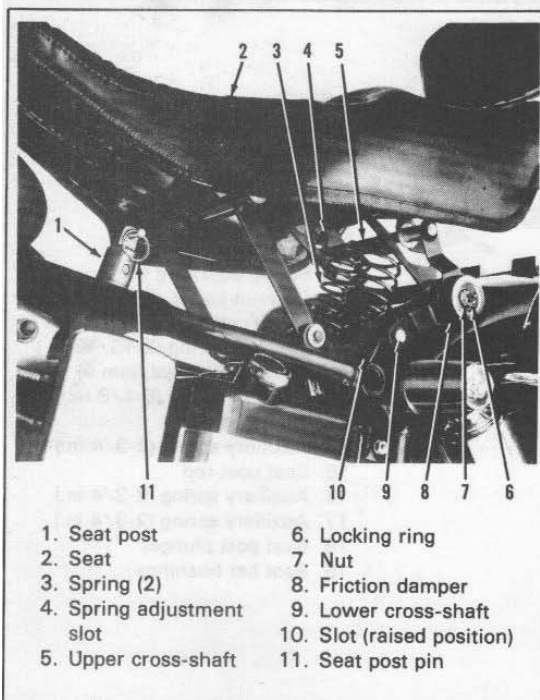
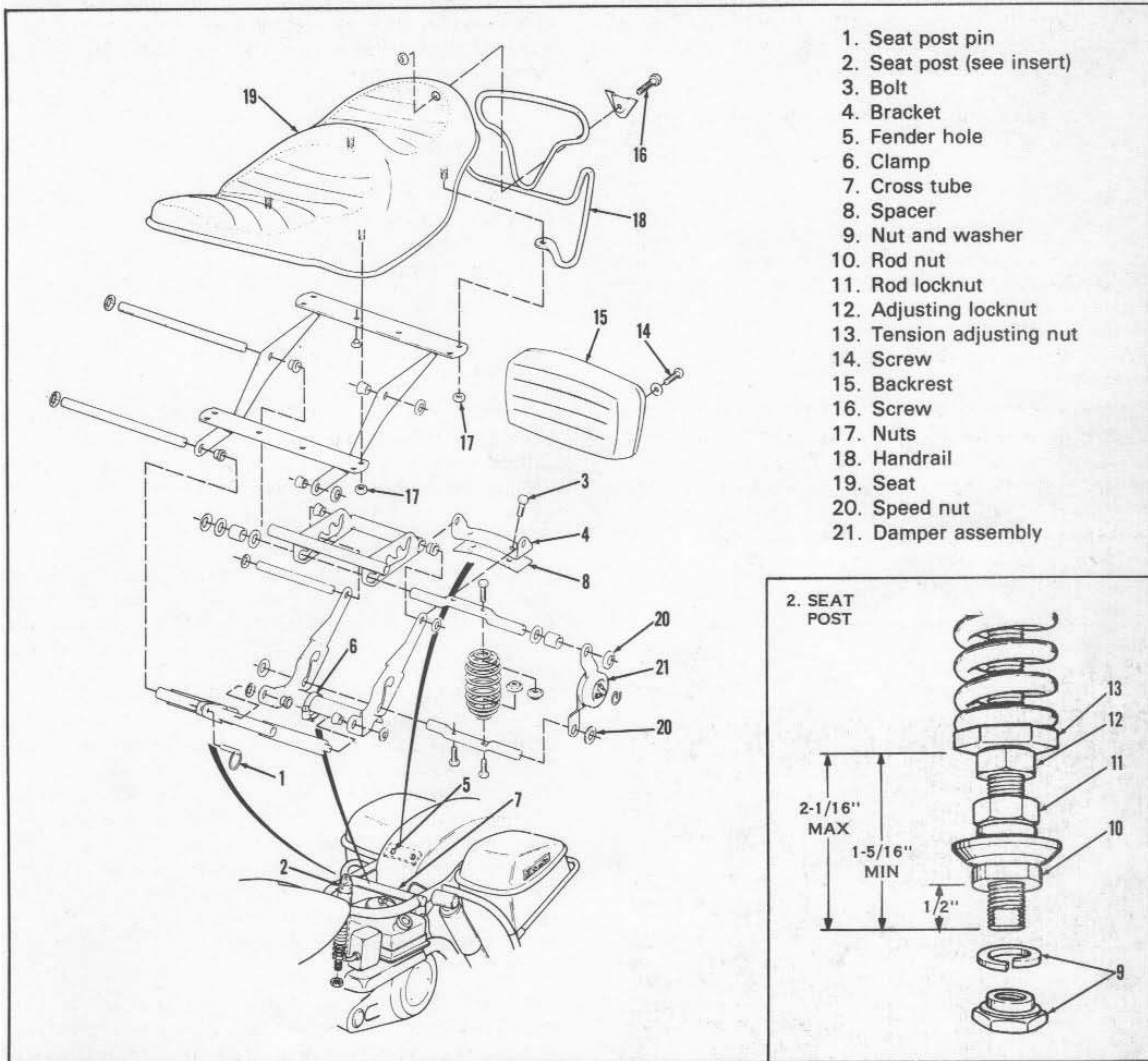

Figure 2-72. Comfort Flex Seat - Models FL and FLH
Figure 2-73. Comfort Flex Seat - Exploded View
SEAT SPRING FIRMNESS ADJUSTMENT (Figure 2-72)
REMOVING AND INSTALLING SEAT ASSEMBLY (Figure 2-73)
Referring to Figure 2-73, pull out pin (1) from seat post (2). Lift seat up into raised position. Remove two bolts (3), nuts and washers which attach bracket (4) to fender through holes (5). Remove two clamps (6) which attach seat to frame cross tube (7). The seat will now be freed and can be lifted off the motorcycle.
To reinstall seat assembly, reverse the procedure given above for removal while observing for correct clearances. The seat post height should be $3 \pm 1/16$ in. from seat post frame to centerline of post pin hole. With upper shaft (5, Figure 2-72) in fifth or rear most slot, the seat should compress fully to its stops and the gas tank clearance must be 1-1/2 in. minimum and, there should be adequate clearance between seat and fender, luggage carrier with Tour-Pak, and saddlebags. If seat post height requires adjustment, proceed as follows. Referring to Figure 2-73, remove nut and washer (9) from bottom of seat post and remove seat post from motorcycle. Adjust rod nut (10) to obtain 1/2 in. dimension shown in figure. This dimension should give the seat the correct dimension of $3 \pm 1/16$ in. Note that adjusting locknut (12) can be removed completely from the assembly and not used at all if necessary to achieve the $3 \pm 1/16$ in. dimension.
After removal from motorcycle, the seat assembly is partially disassembled by removing items 14 through 20 in the order shown in Figure 2-73. Reassemble in reverse order.